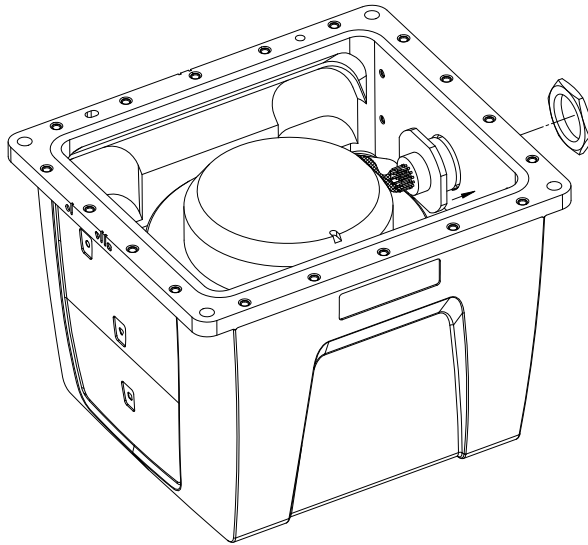

Figure 51: Fasten Internal Cable Harness
5. Connect the internal cable harness to the enclosure body, as shown in *Figure 51*. During this step, ensure the connector O-ring (supplied with the connector of the internal cable harness) remains flat within the connector's groove, and make sure the groove is clean and free of debris. Fasten the connector to the enclosure body wall using the jam nut supplied with the connector. Apply thread-locking fluid then, with a 30 mm socket, tighten the jam nut to 6.9 N-m (61 lb-in/5.1 lb-ft).